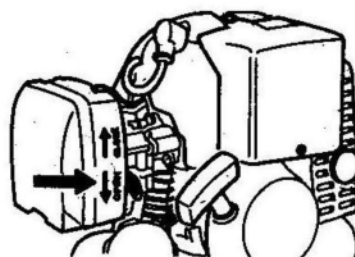

FIG 12
3. COLD START: Slide the choke lever to full choke position (Fig. 12).
7. Slide choke lever to PARTIAL CHOKE POSITION (see Fig. 12). Pull starter rope 1-3 times to start engine.
8. Slide the choke lever to RUN POSITION (Fig.12). Restart and allow the engine to run for a few more seconds on 1/2 throttle lock (engine runs fast). Pull throttle trigger (releases 1/2 throttle lock), & allow throttle trigger to slowly pull back to engine idle.